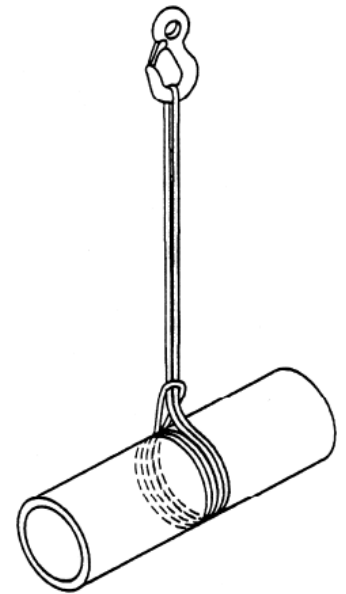

Fig. 1
- When a sling is used in choke hitch, it should be positioned so as to allow the natural angle (120°) to form and avoid heat being generated by friction. A sling should never be forced into position nor an attempt made to tighten the bite. The correct method of securing a load in a double choke hitch is illustrated in Fig. 1. A double choke hitch provides greater security and helps to prevent the load sliding through the sling.